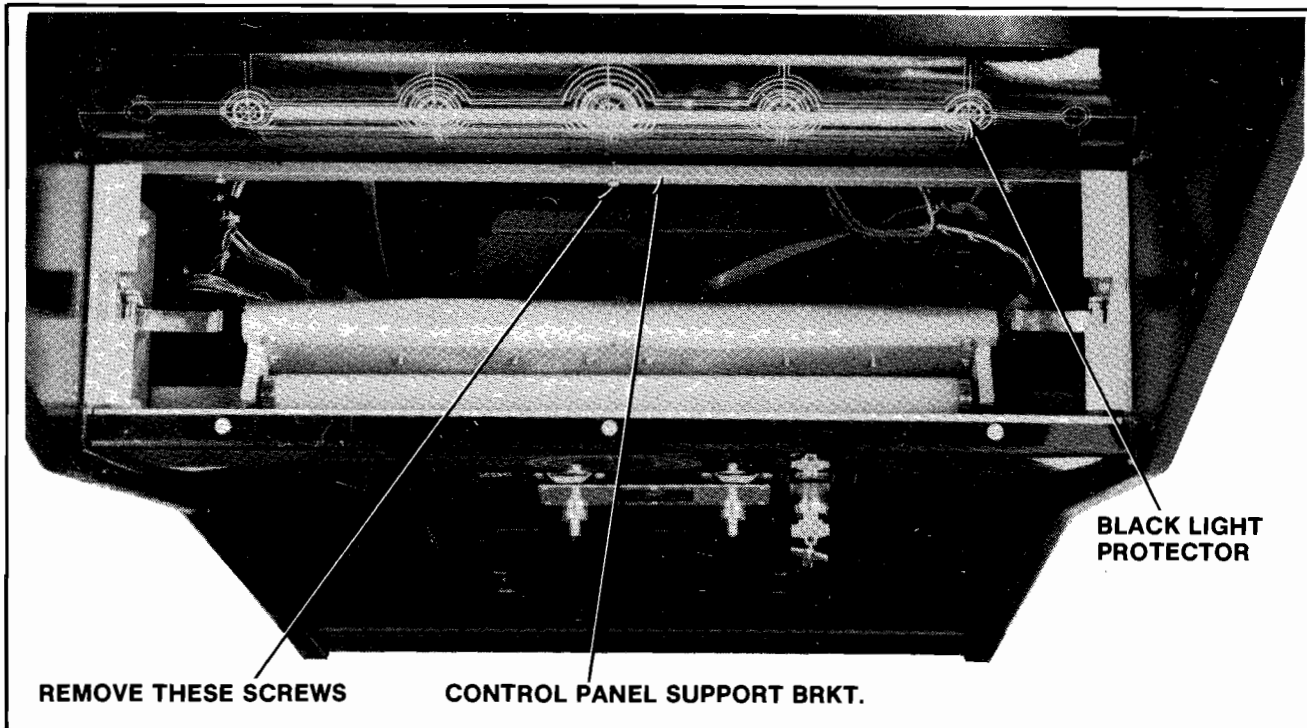

Figure 2-48 Servicing Control Panel Lighting Assembly - Upright
- Remove the control panel as described previously. This exposes the bottom row of screws which secure the control panel support bracket and the black light protector in place. See Figure 2-48.